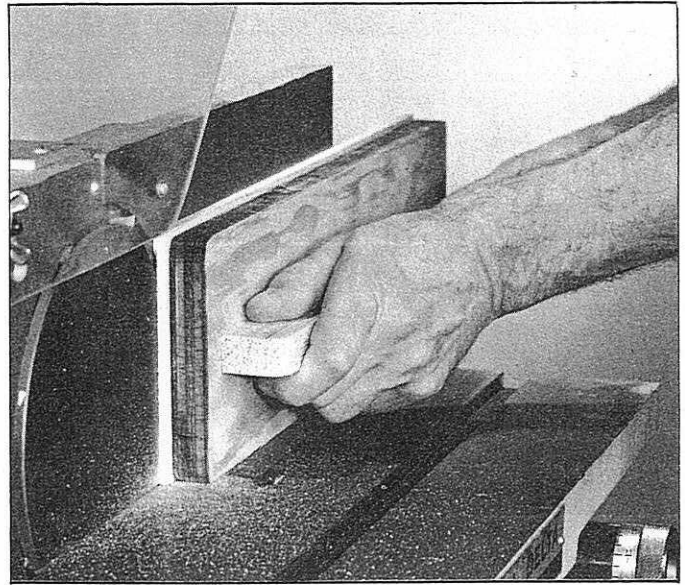

Fig. 42.
10. When surfacing thin material, always use a "backup board". These can be made readily out of 3/4" plywood, as shown in Fig. 42. Make several assorted widths and lengths depending upon your needs. Sandpaper glued to the flat side of the "backup board" will prevent it from slipping on the work piece.